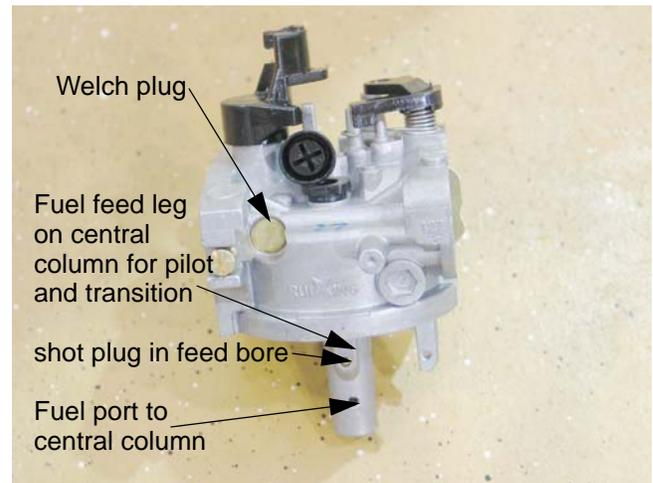

Figure 4.50
7. The throttle stop screw has a large pliable lip around the head of the screw. That lip secures a metering plug for the pilot and transition ports. Remove the screw to reach the plug. See Figure 4.50.